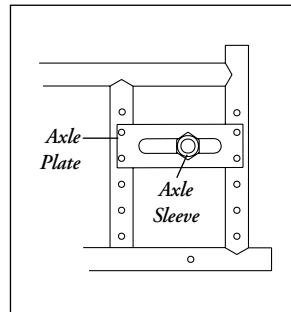

Figure 17
1. Center of Gravity (Fig. 17)